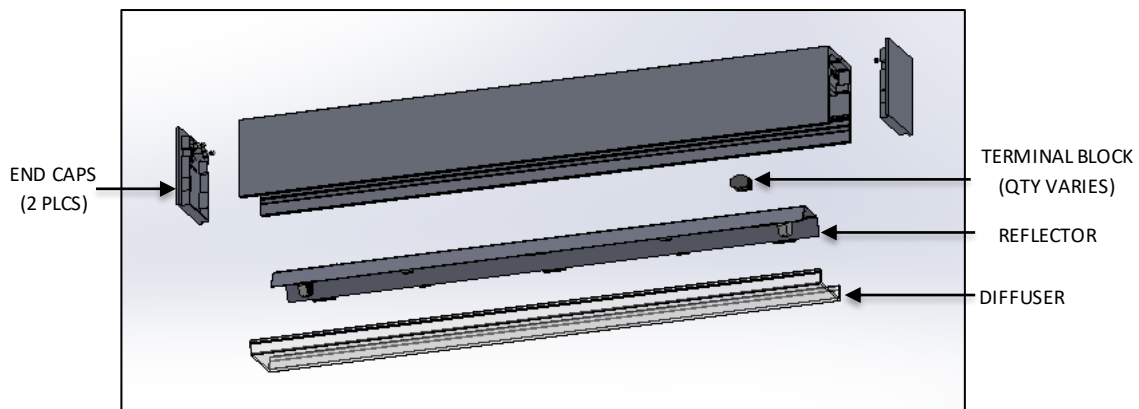

FIG.5- FIXTURE DISSASSEMBLY
3. Remove END CAP and DIFFUSER, Release REFLECTOR by using flat screwdriver to Release the tab. Lift one lever on each terminal block to release one of the two wires allowing the REFLECTOR to be removed from FIXTURE (Quantity varies) as shown in FIG.5.